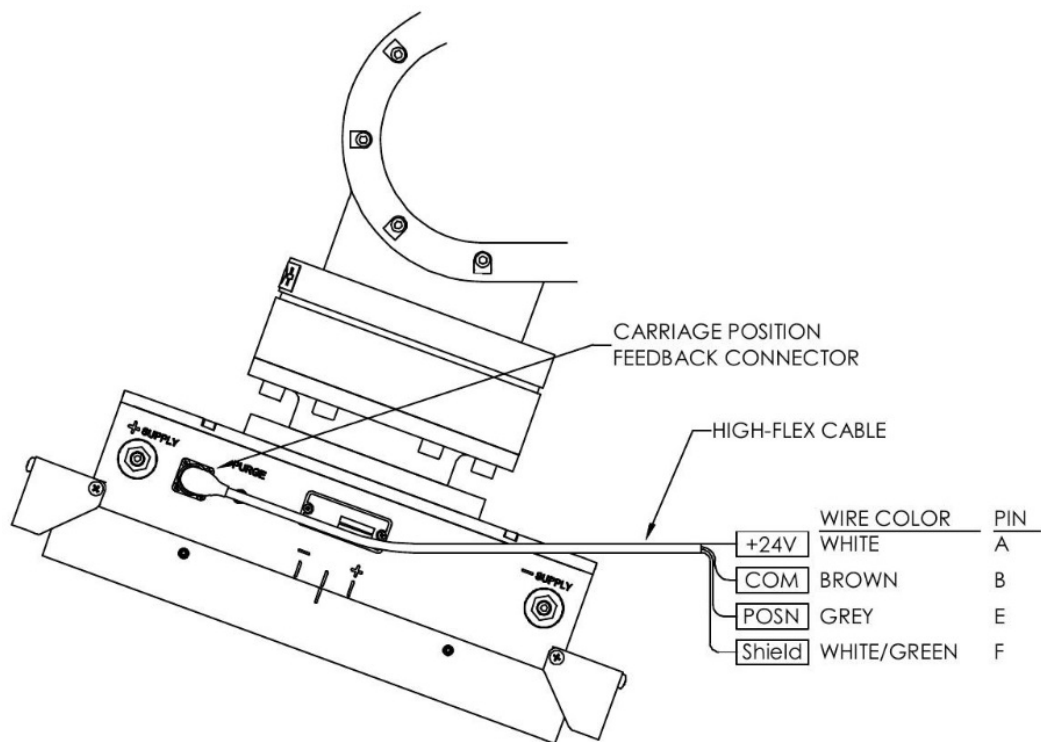

Figure 7. Electrical Connections
2. Attach the High-Flex Cable wires as shown in Figure 7.